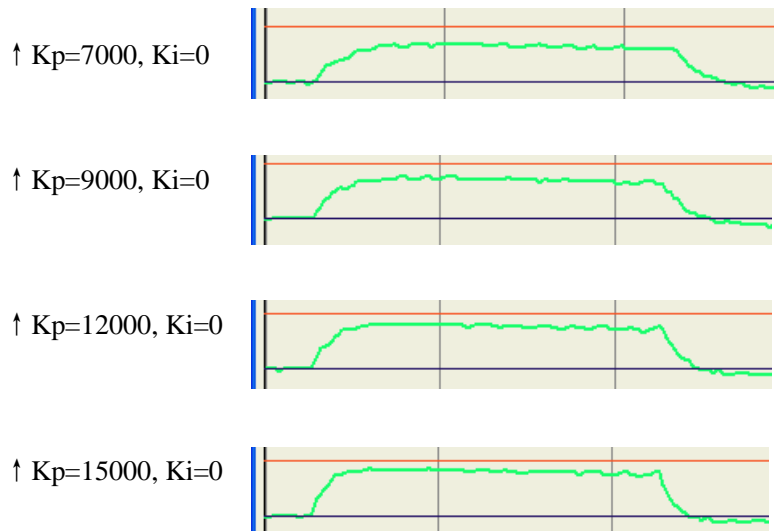

Figure3-4: Current loop tuning with with $K_i=0$ and increasing K_p
Step 4: Give K_p 7000, 9000, 12000, 15000 and click **Start**, respectively. The green curve is getting more and more close to the red curve. See figure 3-4.